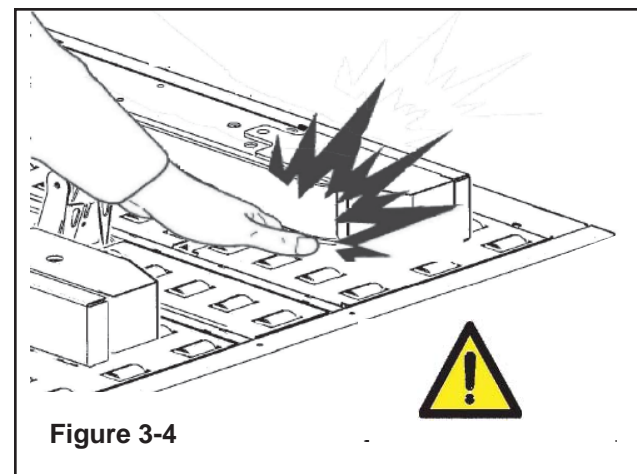

Figure 3-4
**Important!** Cavity in the conveyor bed. Never put your hands inside any part of the machine while it is working. Serious injury may occur (Figure 3-4).